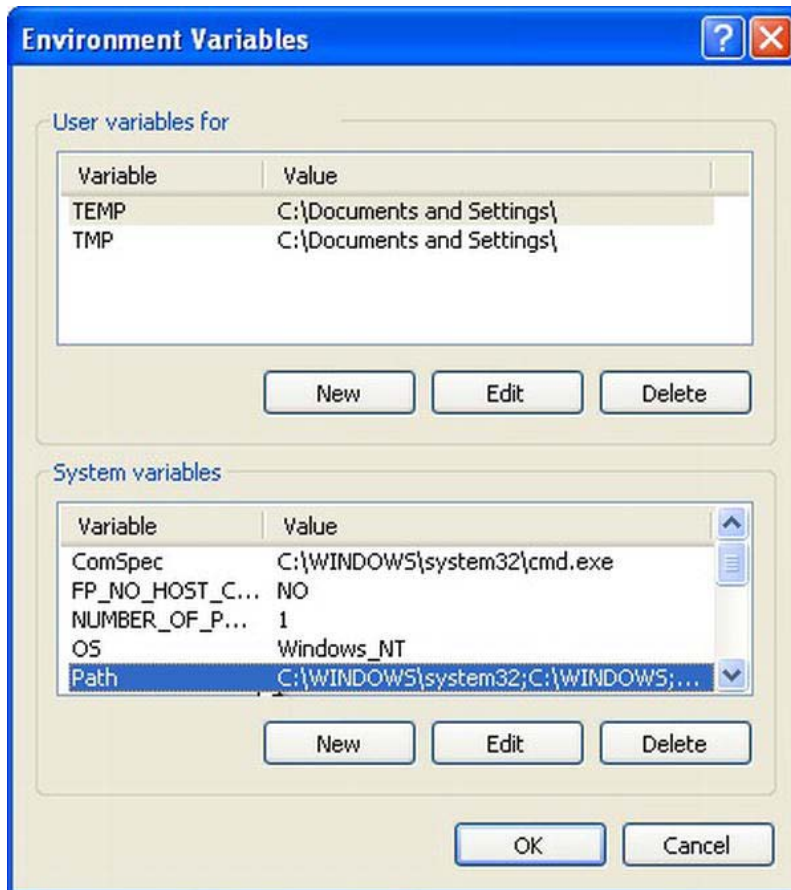

Figure 1-10. Setting up Environment Variables
5. Additionally edit the PATH variable by selecting it (Figure 1-10) and click Edit. Insert %JAVA_HOME%/bin; in front of the other values.